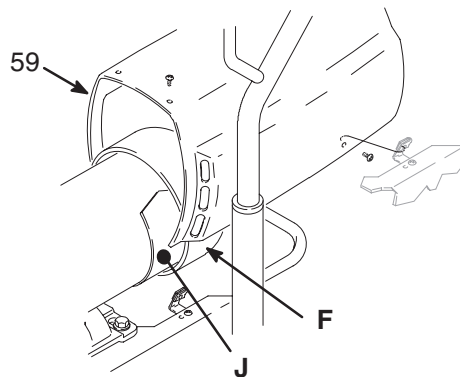

Fig. 11 01224A
2. Remove the motor shield (59). Remove the inspection covers (J) and gaskets (K) on each side of the motor. See Fig. 11.